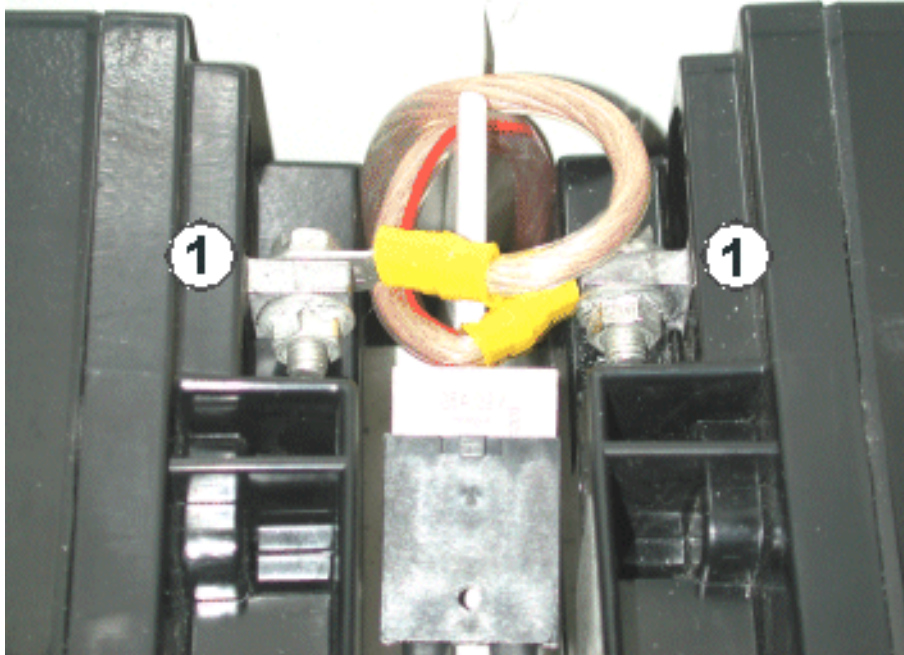

Fig. 5 Cable harness connections
- 5 Remove nuts, washers, and screws (Fig. 5/1).